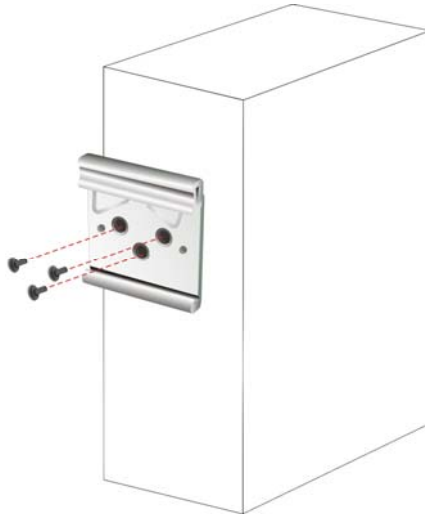

Figure 3-10: DIN Rail Mounting Bracket Installation
- Step 1:** Attach the supplied DIN rail mounting bracket to the rear panel of the embedded system. Secure the bracket to the embedded system with three retention screws (**Figure 3-10**).